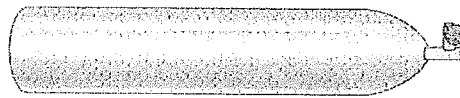

Figure 1 : Scuba diver's tank
- [b] A scuba diver's aluminum air tank (Figure 1) has an outer diameter of $d_o = 200$ mm and a wall thickness of $t = 12$ mm, and it is pressurized to a service pressure of $p = 25$ MPa.